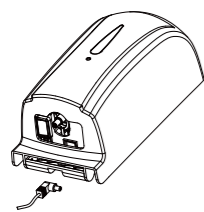

fig 1
2. Drill four (4) holes with Ø8 mm (Ø0.31") diameter at marked locations.
3. Insert four (4) plastic anchors (supplied) into drilled holes; remove template. (fig 1)
2. Take the AC adaptor plug through the hole of baseplate (fig 1) and connect the DC jack (fig 2).
6. Do not place hand under the sensor while the LED light is flashing blue for four (4) times as it's detecting the environment automatically. If there is no object under the dispenser, the default sensing distance is 10-14 cm. If there is an object (such as a basin or counter) near the bottom of the dispenser, the sensor will detect the installation height to set a suitable sensing distance automatically.